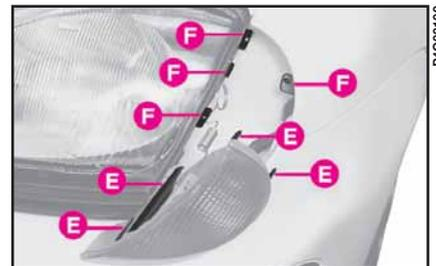

fig. 19
- 6) replace the lens unit in its seating inserting the tabs **E**-fig. 19 in the guides **F** to the side of the light;